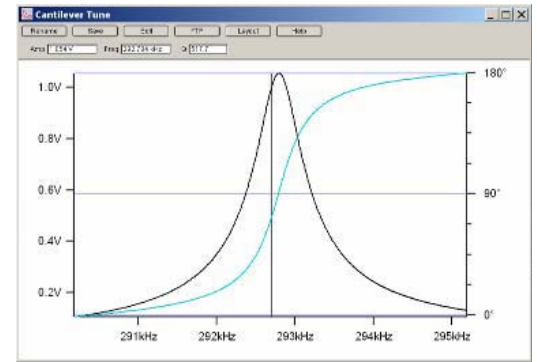

Figure 5. The Cantilever Tune window following a successful autotune procedure.
- g. You should see a plot similar to that in Figure 5. If you don't, you may need to do a thermal tune to locate the tip frequency (see Thermal tab), or your tip may be bad, in which case you should change the tip.